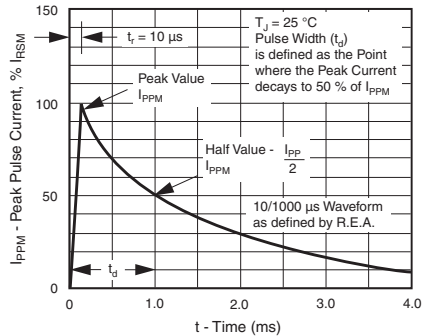
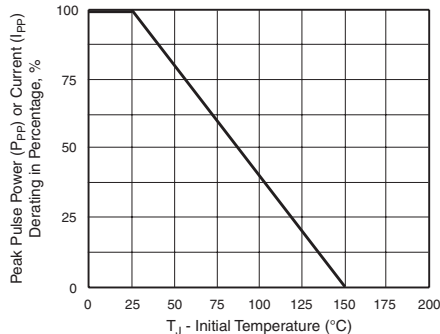

Figure 3. Pulse Waveform
Figure 2. Pulse Power or Current vs. Initial Junction Temperature
- (1) Pulse test: tp ≤ 50 ms
- (2) Surge current waveform per Fig. 3 and derate per Fig. 2
- (3) For bi-directional types having VWM of 10 V and less, the ID limit is doubled
- (4) All terms and symbols are consistent with ANSI/IEEE C62.35
- (5) For the bi-directional SMAJ5.0CA, the maximum VBR is 7.25 V
- (6) VF = 3.5 V at IF = 25 A (uni-directional only)